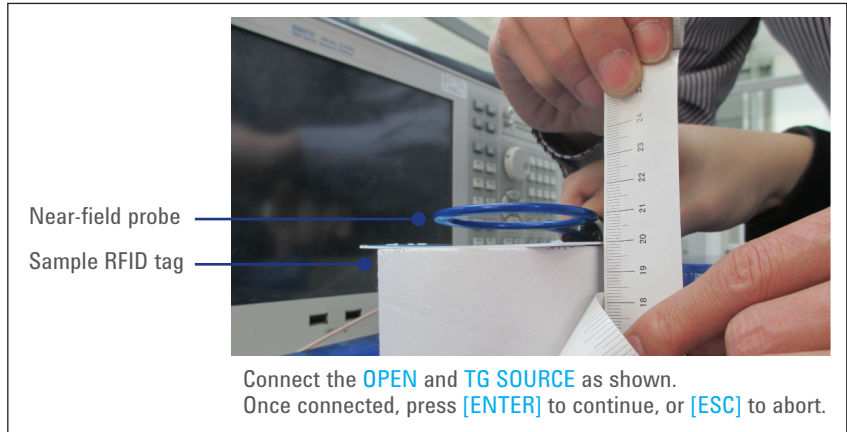

Figure 4. Use a close-field probe as the power radiator and collector
- Connect the near field probe to the TG Output port of the N9322C BSA, and place the probe about 1 cm (0.4 in) above the sample RFID tag (see Figure 4)